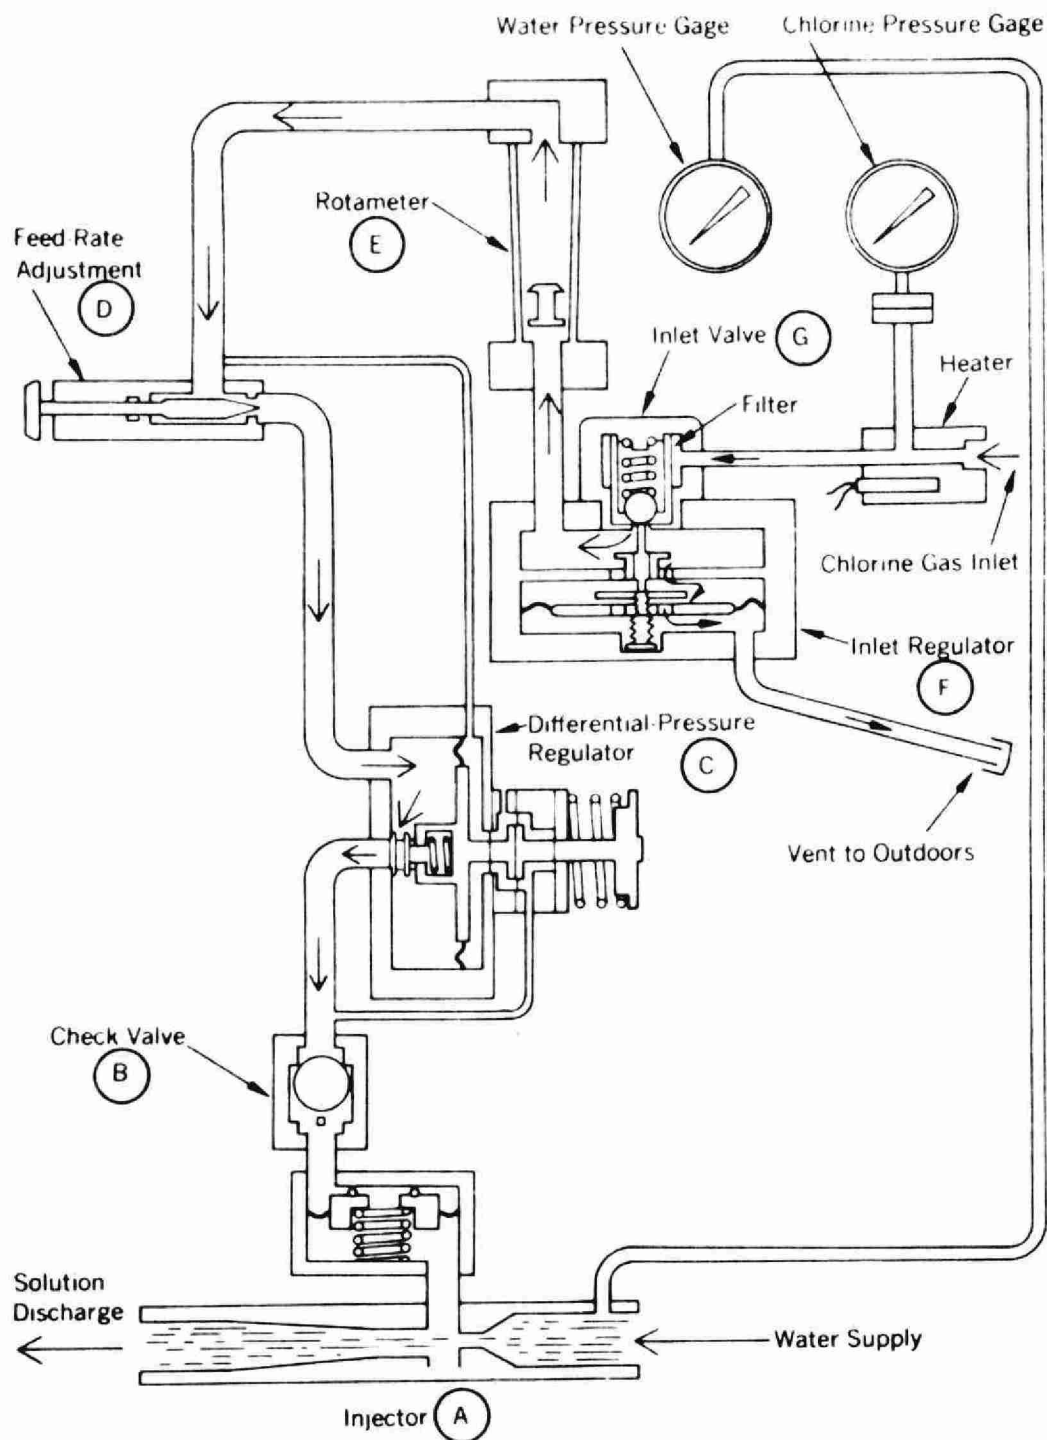

Fig. 13-4 . BIF Chlorine Feeder
4. BIF Industries Chlorine Feeder (see Fig. 13-4)